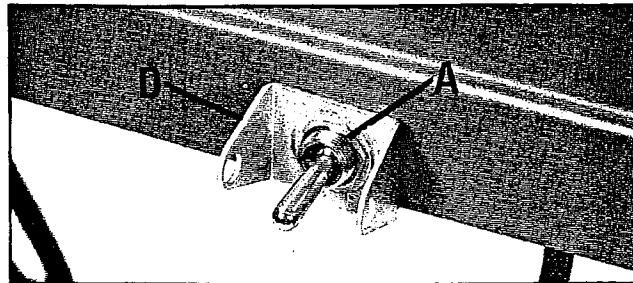

Fig. 8
4. Place the switch bracket (D) Fig. 8, on switch stem with key of switch bracket engaged with keyway in switch stem. Fasten switch in place with hex nut (A) that was removed in STEP 2. **NOTE:** The excess wire from the motor to the switch should be wrapped and tied and then positioned out of the way.